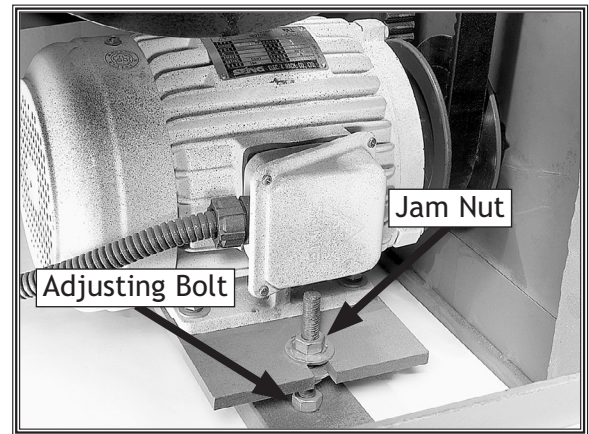

Figure 41. Location of feed motor adjusting fasteners.
3. Loosen the jam nut (**Figure 41**), rotate the adjusting bolt to adjust belt tension, and re-tighten the jam nut.
4. Loosen the jam nut (**Figure 41**), and rotate the adjusting bolt enough so that you can roll the belt off the pulleys.